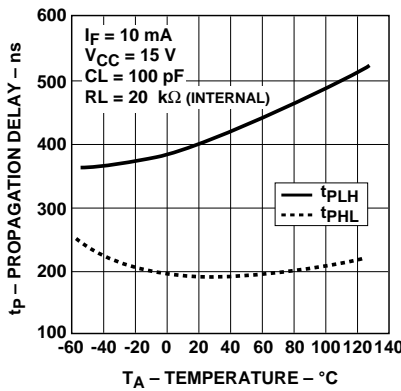

Figure 8. Propagation Delay with Internal 20 kΩ RL vs. Temperature.
- Due to the tolerance of the internal resistor, and since propagation delay is dependent on the load resistor value, performance can be improved by using an external $20\text{ k}\Omega$ 1% load resistor. For more information on how propagation delay varies with load resistance, see Figure 8.